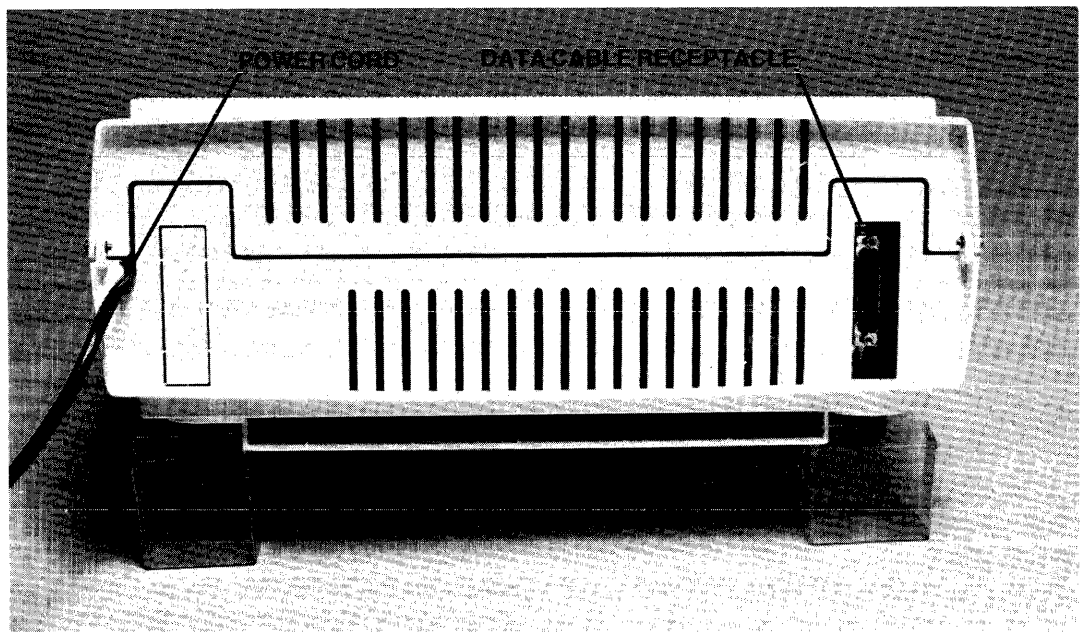

Figure 3-1. Power Cord and Data Cable Receptacle
1. Check to see that the power cord is plugged into the ac wall outlet. See Figure 3-1.
2. Check to see that the data cable is connected properly to the printer. Figure 3-1 shows the receptacle for the data cable. If the data cable is not connected to the printer, follow the connecting procedures in Appendix B.
- a. Check to see that the data cable is connected securely to the printer. See Figure 3-1.